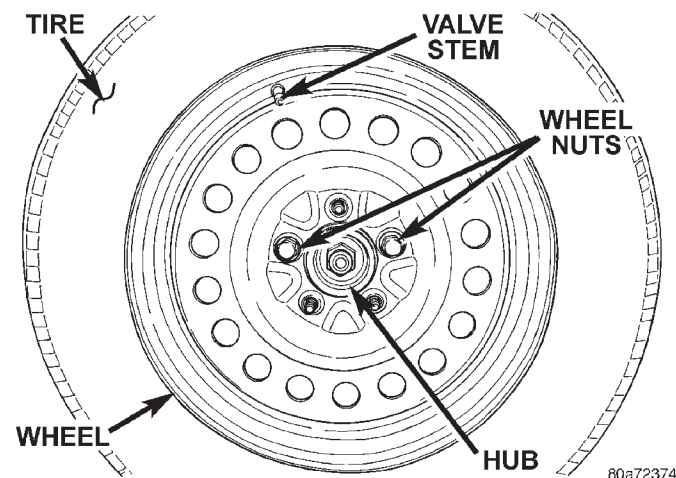

Fig. 17 Wheel Installation
NOTE: The wheel nuts must be installed on the studs shown in (Fig. 17) to allow the installation of the wheel cover.
(1) To install the wheel, first position it properly on the hub mounting surface using the hub pilot as a guide. Then install and **lightly tighten** the 2 wheel nuts on the studs as shown in (Fig. 17) holding the wheel to the hub.